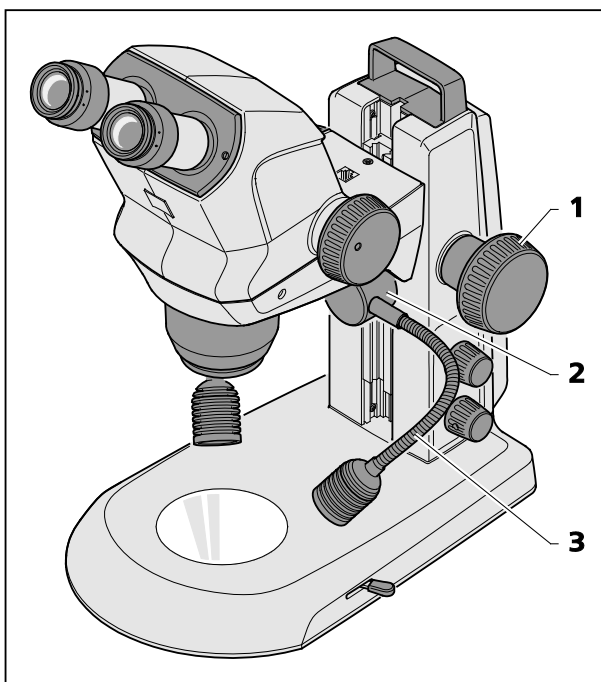

Fig. 17 Double spot illuminator
- Move the microscope body to its uppermost position via the focusing knob (Fig. 17/1).
- Push double spot illuminator (Fig. 17/2) to the required level within the guide.
- Bend the two goose necks (Fig. 17/3) to adjust the spots so that the specimen is optimally illuminated.